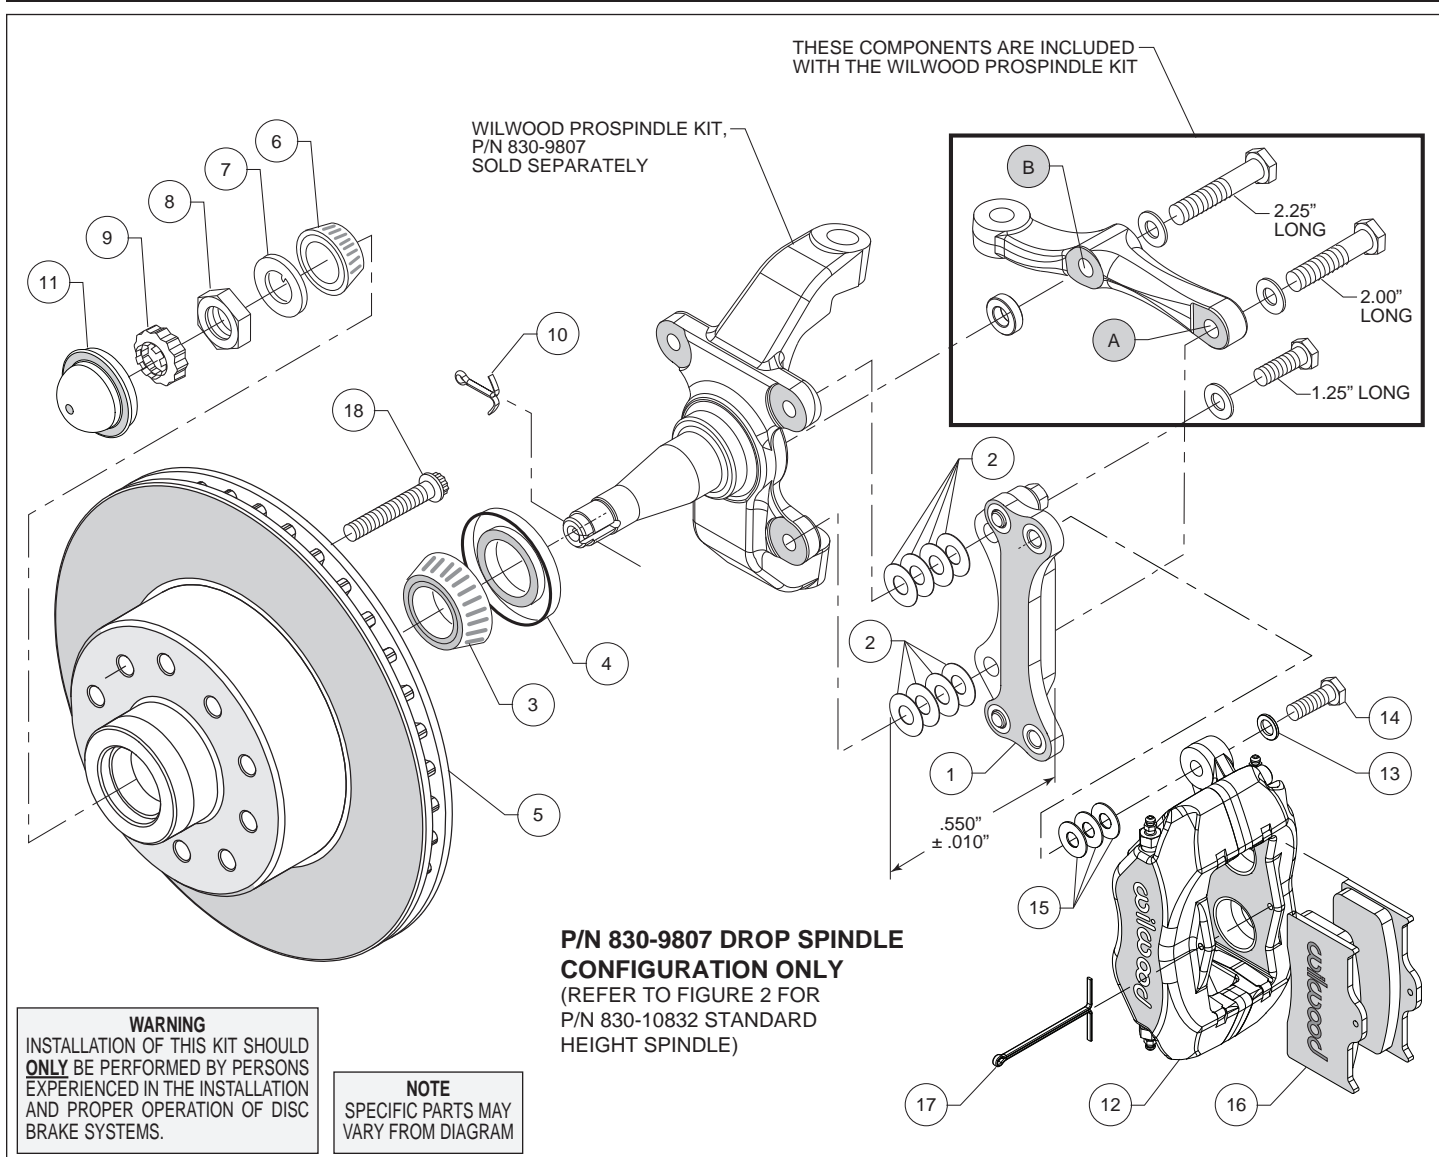
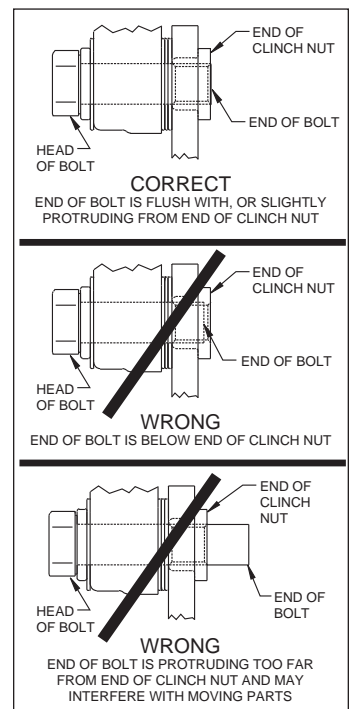

Figure 1. Installation Configuration For Drop Spindle, P/N 830-9807
Figure 4. Clinch Nut Engagement Diagram
Assembly Instructions (numbers in parenthesis refer to the parts list and Figures 1 or 2 on the preceding pages): **CAUTION:** All mounting bolts must fully engage insert nuts. Be sure to check that all bolts are either flush or protruding through flanged side of insert nut after shimming, Figure 4.
•**NOTE:** Each Wilwood ProSpindle kit includes bolts, washers, and a spacer to mount the steering arm and caliper bracket. The various bolts are identified by length in the following instructions and in Figures 1 and 2.
- Orient the bracket as shown in Figure 1 and Photo 1. Install at top spindle hole using 1.25" long bolt and .06" thick washer (from ProSpindle kit), and four .016" thick shims (2) between the bracket and spindle, Figure 1.
- Orient the steering arm, and identify the hole marked 'A', as shown in Figure 1. Install at bottom spindle hole using 2.00" long bolt and .06" thick washer (from ProSpindle kit), and four .016" thick shims (2) between the bracket and spindle, Figure 1. The bracket is located between the steering arm and spindle. **NOTE:** The bracket and shim washers must add up to a total thickness of $.550" \pm .010"$, Figure 1.
- Finish attaching the steering arm through the hole marked 'B', as shown in Figure 1. Install using 2.25" long bolt, .06" thick washer, and .25" thick spacer (all from ProSpindle kit), Figure 1.
• **NOTE:** Please reference the caution statement at the beginning of the assembly instructions. Mount the caliper (12) onto the caliper mounting bracket (1) using bolts (14) and washers (13), as shown in Figure 1 or 2. Initially place three .035" thick shims (15) on each bolt between the caliper and the bracket, Photo 7. Temporarily tighten the mounting bolts and view the rotor (5) through the top opening of the caliper. The rotor should be centered in the caliper, Photo 8. If not, adjust by adding or subtracting shims between the bracket and the caliper. Always use the same amount of shims on each of the two mounting bolts. **NOTE:** The end of each bolt must be flush with or slightly protruding from the head of the clinch nut, as shown in Figure 4. If necessary place spare shims between washer (13) and caliper mounting ear to achieve the proper clinch nut engagement. Once the caliper alignment and clinch nut engagement are correct, remove the bolts one at a time, apply red *Loctite*® 271 to bolt threads, and torque to 40 ft-lb.
- Install the disc brake pads (16) into the caliper, with the friction material facing the rotor (5), and secure in place using cotter pin (17), Photo 9.